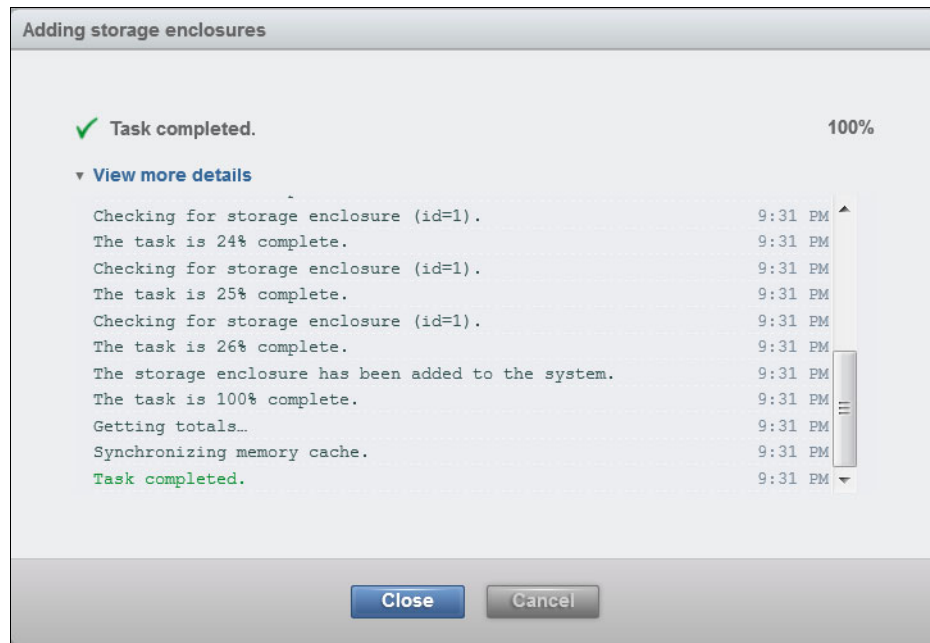

Figure 6-25 Add AE2 storage enclosure results
- The code update or downgrade of the AE2 storage enclosure starts. Wait for the task to complete (Figure 6-25) or click **Cancel** to stop the process. When the **Close** button is enabled, click it to continue.